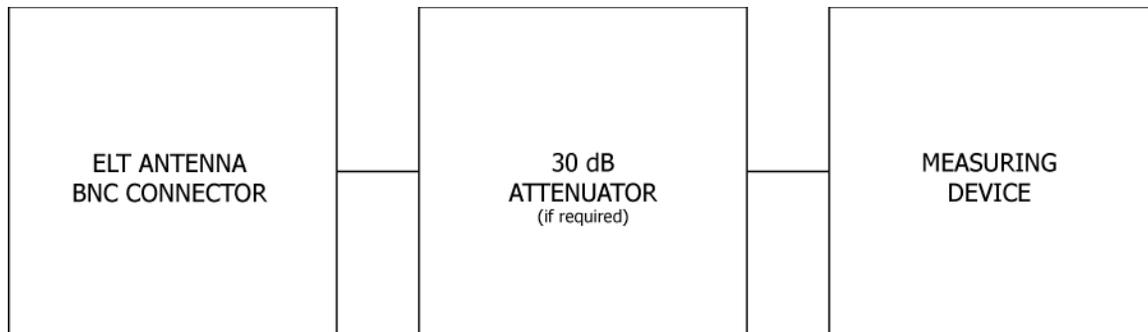

Figure 6 Performance Test Setup
- 3) For final airworthiness verification, use the ELT's own battery pack as the power source for these measurements. An alternate power source can be used where lengthy servicing, other than the performance tests, is anticipated. Expired battery packs can be used if the airworthiness performance of the battery pack in the system is not required. The battery packs are capable of at least fifty (50) hours of operation at the end of six years of useful life.
- 4) To prevent damage to the measurement equipment from the 5W, 406 MHz burst, install an RF attenuator (rated 50 ohm) between the ELT antenna output and the measurement equipment. Typical attenuation is 30 dB, 50 ohm, and rated at 5 watts for 1/2-second duration (see Figure 6 Performance Test Setup).
- 1) Connect the measuring device as specified in Figure 6 Performance Test Setup.
- 1) Connect the measuring device as specified in Figure 6 Performance Test Setup on page 26.